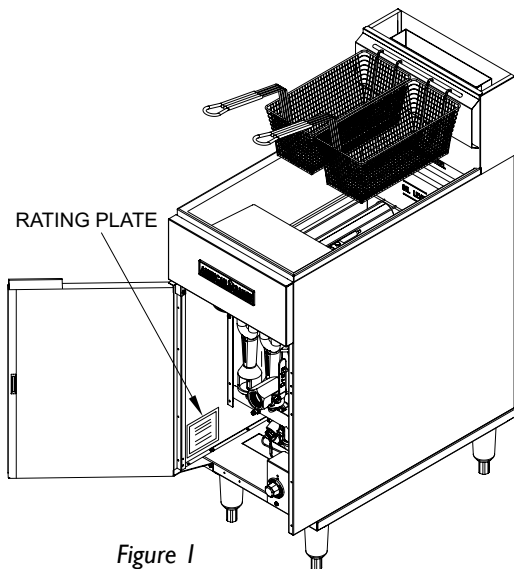

Figure 1
**RATING PLATE** - The location of the rating plate is shown in *Figure 1*. The information on the rating plate defines the model, serial number, gas type (natural or liquid propane), operating pressures and burner BTU ratings. Keep this information for future reference. It is essential for proper identification of the unit when requesting additional information or factory support.